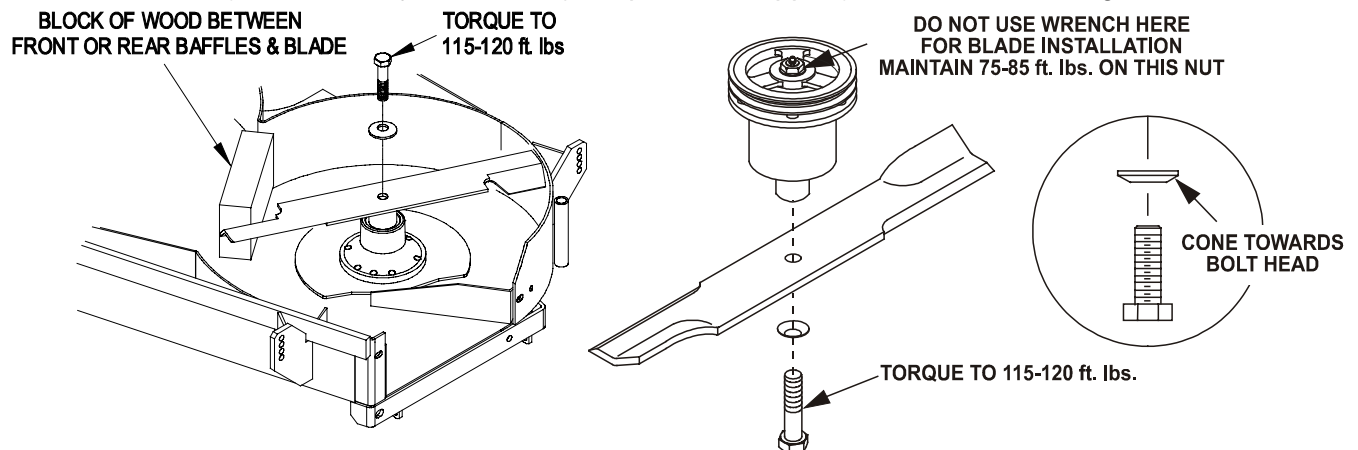

FIGURE 5
- g) Re-install the blades (if they were removed) by placing a block of wood between the front or rear baffles and the blade then torquing the blade bolts to 115-120 ft. lbs. Be sure the spring disc washer cone is installed toward the bolt head (See Figure 5).